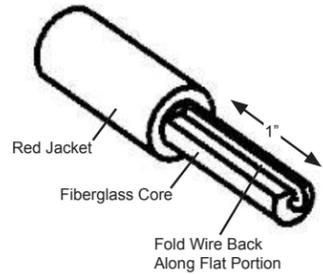

Fig. 2
3. Using sharp knife, strip away a flat spot on remaining 1" portion of fiberglass core approximately as deep as wire diameter (.04"). Cut exposed wire length to approximately 1" and lightly strip away thin coating on copper wire. Fold wire back along flat spot in fiberglass core (Fig. 2).